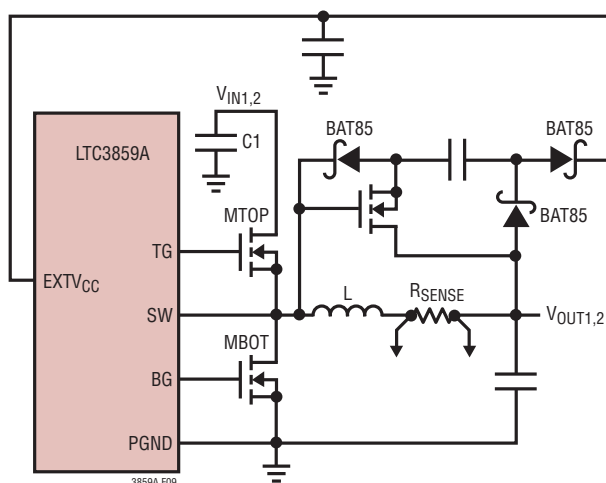

Figure 9. Capacitive Charge Pump for $EXTV_{CC}$
4. $EXTV_{CC}$ connected to an output-derived boost network off one of the buck regulators. For 3.3V and other low voltage buck regulators, efficiency gains can still be realized by connecting $EXTV_{CC}$ to an output-derived voltage that has been boosted to greater than 4.7V. This can be done with the capacitive charge pump shown in Figure 9. Ensure that $EXTV_{CC} < V_{BIAS}$.